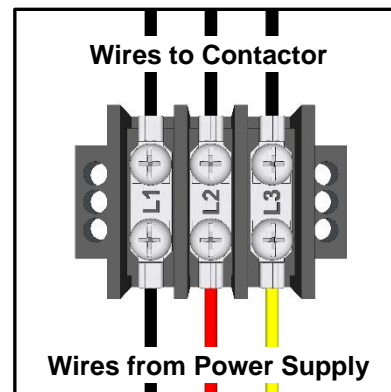

Figure 14
- 1** Have your certified electrician connect power to the 3 terminal T-bar and ground wire to grounding block. (see **Figure 14**)